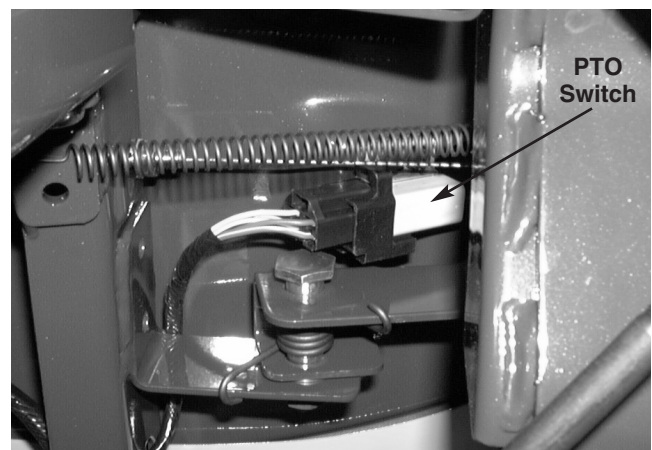

FIGURE 5.
- 13). Locate the PTO switch and remove the wiring harness connector. See figure 5.